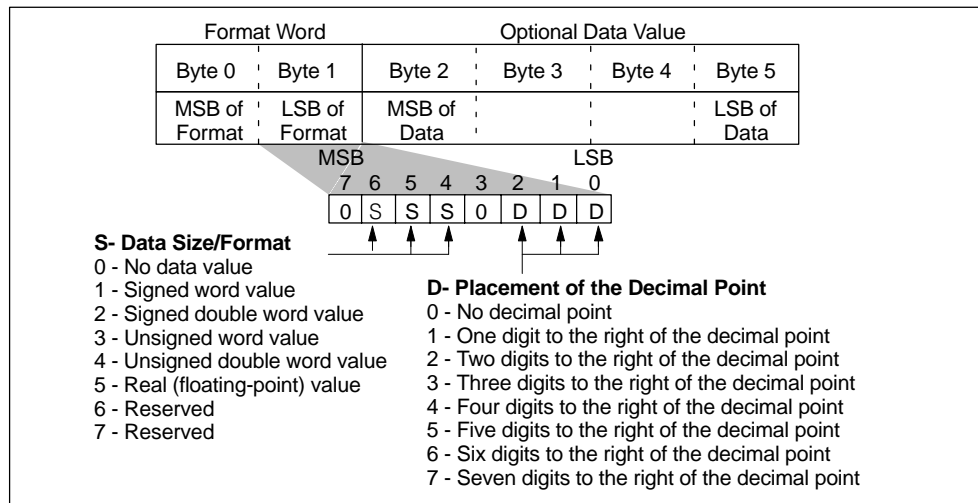

Figure D-18 Bit Values of Byte 1 of the Format Word
The least significant byte of the format word is used to specify the size, the format, and the position of the decimal point in a displayed value. The selection of signed or unsigned affects the editing range of a value. Unsigned values are restricted to positive numbers. Signed values can be either positive or negative. Figure D-18 shows the placement of the data size/format and decimal point bits in byte 1 of the format word.
- Real (floating point) numbers are displayed with the number of decimal places that you specified (see Figure D-18). The value is rounded to the designated level of precision. For example, if one decimal place were specified for the value 12.567, the TD 200 would display “12.6”.
For real (floating point) numbers, the TD 200 uses up to 20 digits to represent the number. (This includes the number of decimal places that were specified in the format word. See Figure D-18.) If a number cannot be displayed within the number of digits available, the TD 200 displays “eeeee” for that value.